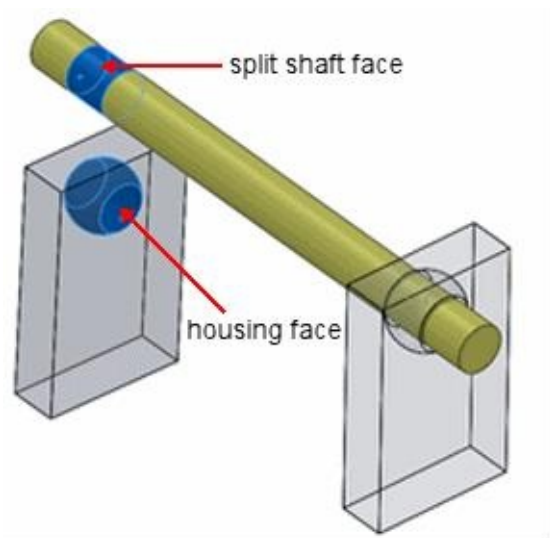

Figure-80. Preview of bearing connection
- Specify the desired parameters in the **Stiffness** rollout and click on the **OK** button from the **PropertyManager** to apply the connection. See Figure-80.